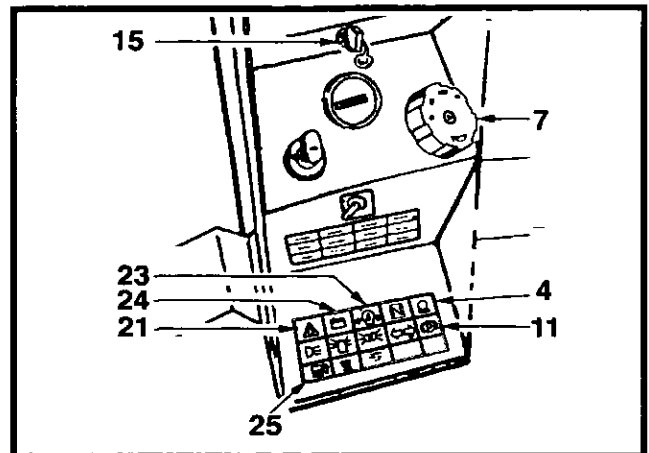
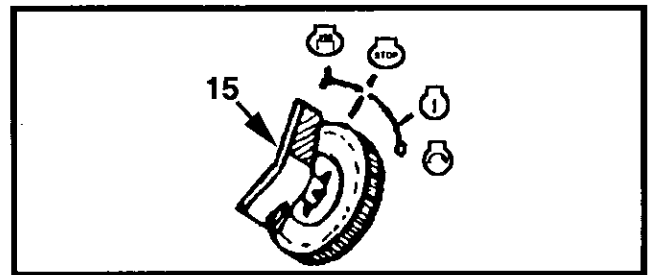

Figure 4-7 Indicator Lights
Figure 4-8 Ignition Switch
The red brake on indicator, (4, Figure 4-7), will illuminate when the brake is applied.
7. Turn ignition switch key (15, Figure 4-8) to  position, and verify that the following **RED** indicator lights (Figure 4-7) are all illuminated.
10. Apply parking brake control when the parking brake light (4, Figure 4-7), should illuminate. Release the parking brake when the parking brake light should extinguish.
11. Check for correct operation of the emergency stop while propulsion control is in the STOP position, and depress the red emergency stop button ②.